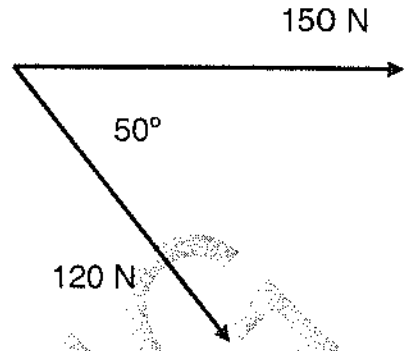

FIGURE 2
- 6.4 Determine, by means of the parallelogram of forces, the magnitude and direction of the equilibrant of the concurrent coplanar forces shown in FIGURE 2 (ADDENDUM - attached).